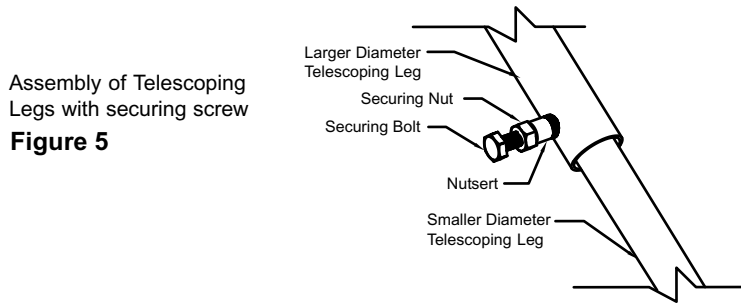

Figure 5
- F. Assemble the telescoping tubes by inserting the smaller diameter into larger one. Thread the securing nut to the securing bolt then thread the assembly into the nutsert. Tighten firmly against the smaller tube which will lock both tubes together (see Figure 5). Repeat for the other telescoping leg assembly.